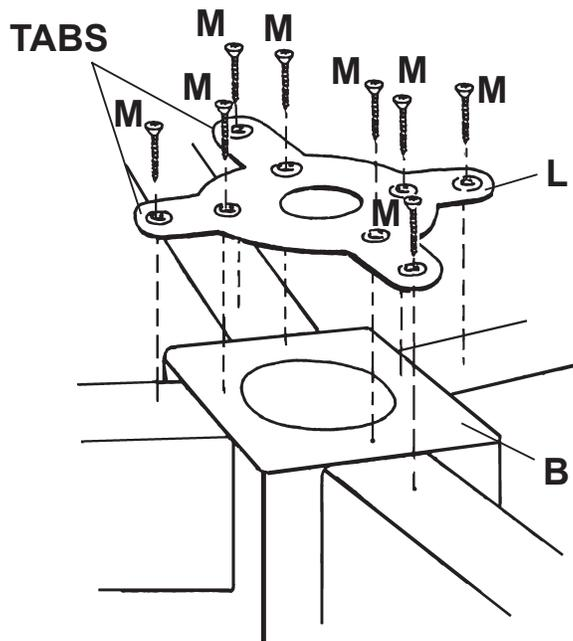

Fig. 6
6. Center the Star Plate (L) on the bottom of the Pedestal (B) so that the tabs align with the legs as shown in Figure 6. Mark the location of the four screw holes that are nearest to the center of the plate and punch these marks with a nail, or drill with a 1/8" drill bit. Drill the holes 3/4" deep. To prevent yourself from accidentally drilling through, mark the drill bit with a piece of tape 3/4" away from the end of the drill bit. Stop drilling when wood meets tape. Insert #10 x 1" Oval Head Screws (M) in the four center holes and tighten until the plate is seated firmly against the base. This will cause the tabs on the Star Plate to conform to the angles of the feet. Using #10 x 1" Oval Head Screws (M), attach the tabs to the feet through the outer holes. See Figure 6.
7. Turn the table upright. When you have placed the table where you want it located, rotate the Adjustable Glides (H) found at the bottoms of the feet to level the table.